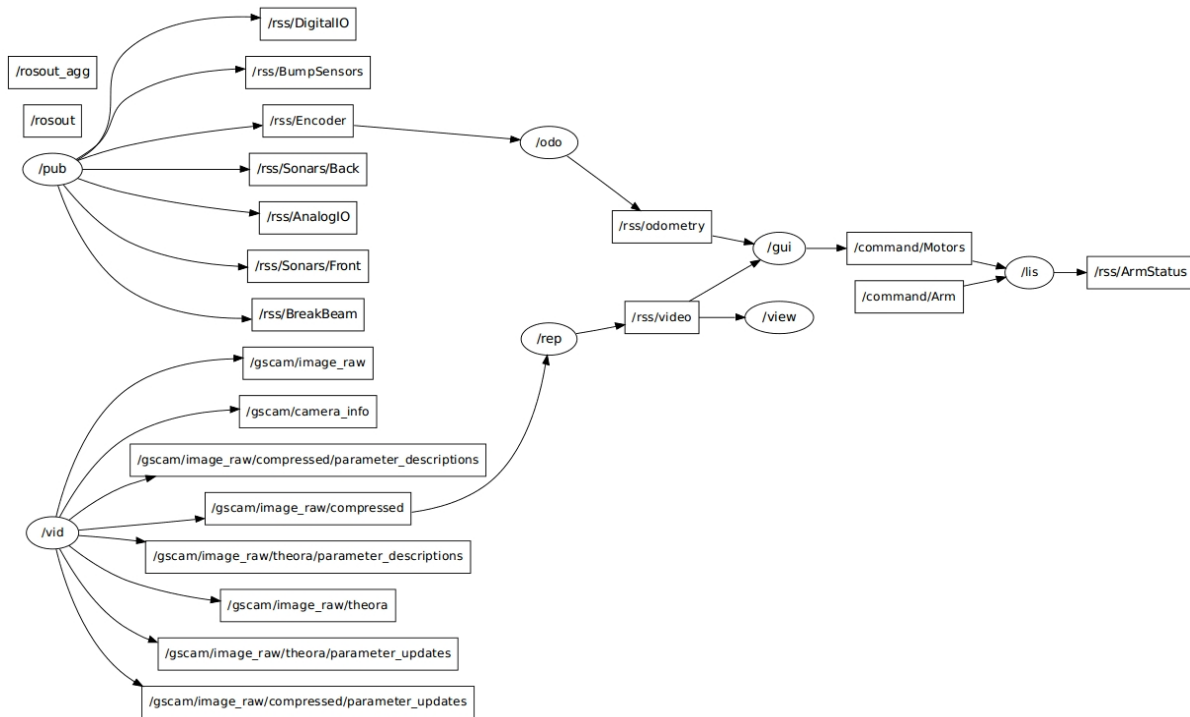

Figure 1: Example output of ROS nodes and topics
- Use `rxgraph` to generate a complete graph showing the connections between all nodes. Make sure all nodes are being displayed; it should look similar to Figure 1. Upload this image to the wiki and write a short description (2-3 sentences) of each node's function.